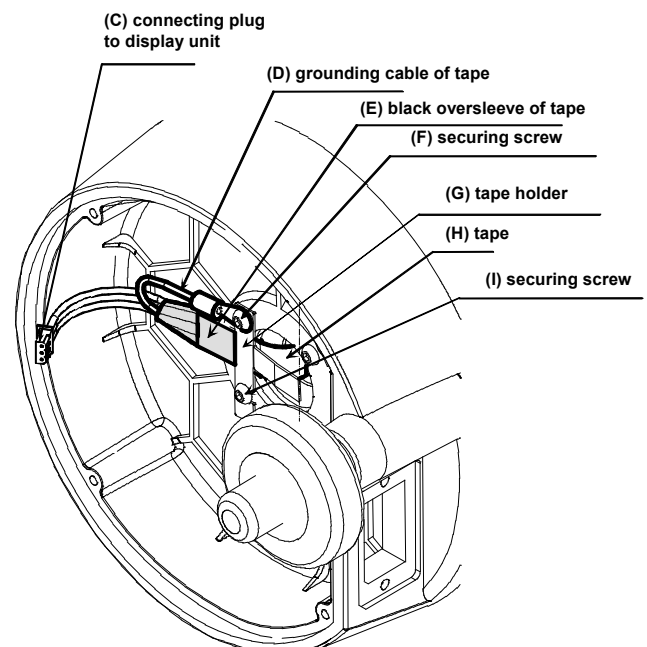

Figure 9-6
- Disconnect the connecting plug (C) as shown on Figure 9-6 and remove the display unit.
- Unscrew with the 2.5 Allen key the tape holder (G) by removing the 2 screws (F) and the grounding cable (D) as shown on Figure 9-6. Do not loose the 2 remaining screws that secure the reel axle.
- On the electronic box side, adjust the black oversleeve just to the edge of the tape holder (pull the tape gently from the other side) and tighten the tape end as shown on Figure 9-6 with.
- If necessary, readjust the loop (M) and the S-shape (L) of the tape at the core of the reel axle.
- Disconnect the tape plug, item (C) shown on Figure 9-6.